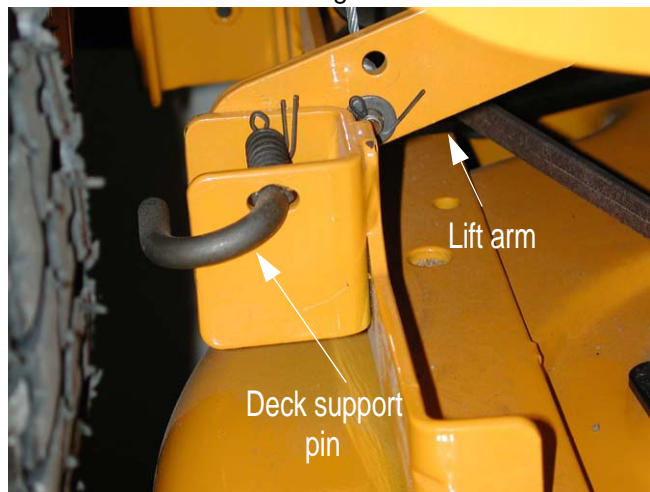

Figure 10.4
- 10.4. Pull the rear deck support pins outward from the deck lift arms. See Figure 10.4.